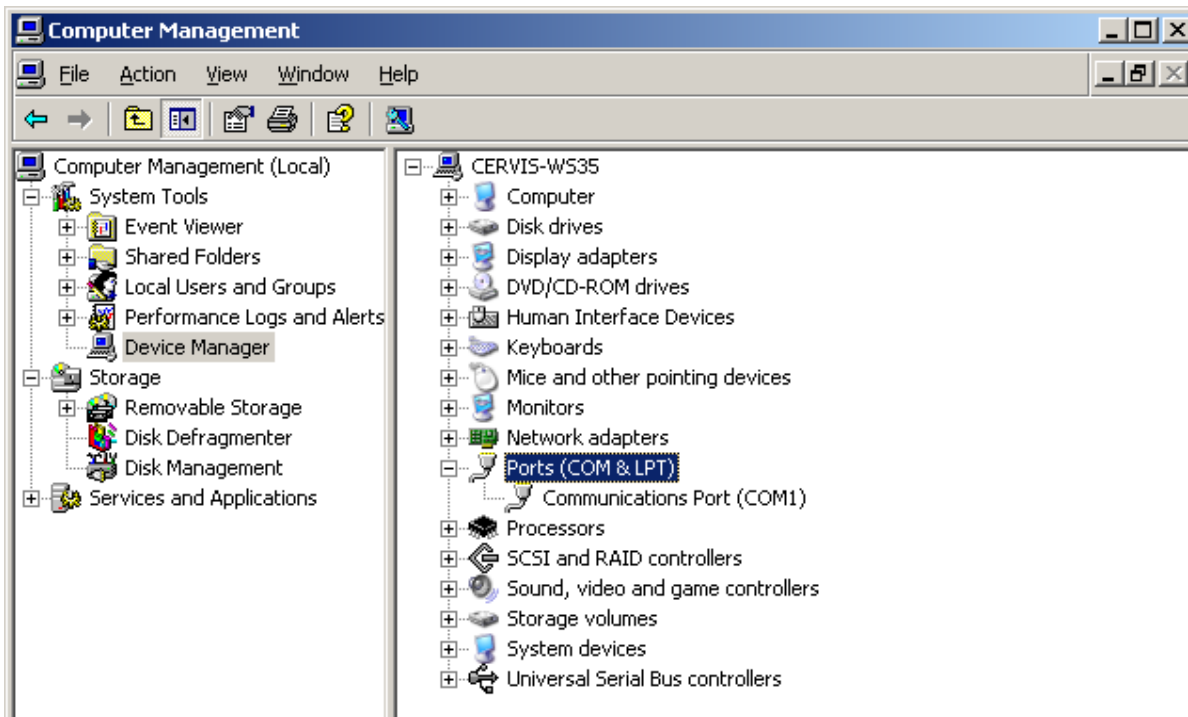

Figure 6
3. Click **Device Manager**. A Computer Management screen similar to that in Figure 6 displays. Click the plus sign in front of Ports. In this case, COM1 is the only port shown.